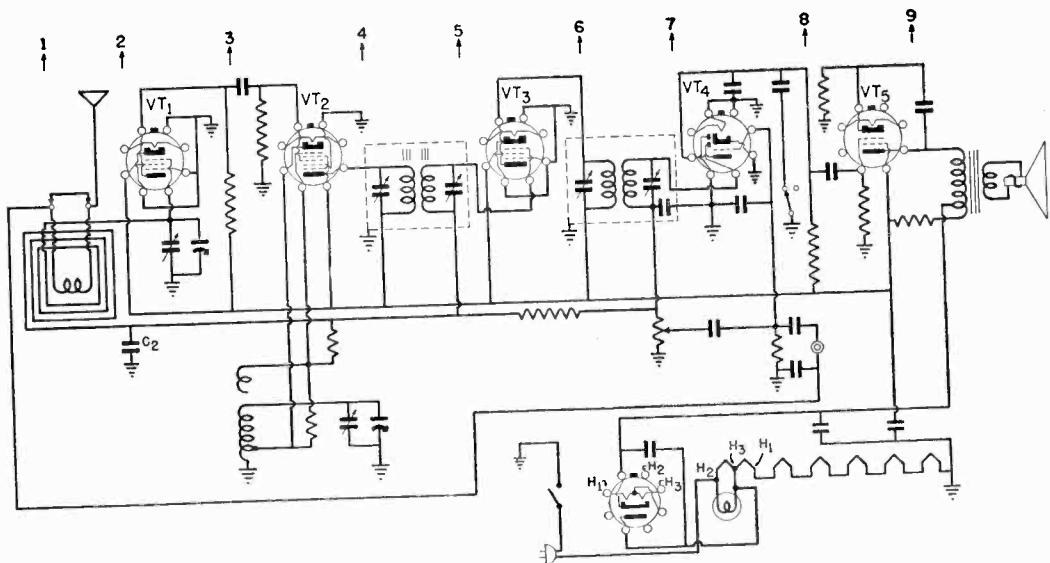

Fig. 5
Table 1 gives the manufacturer's gain figures for the set shown in Fig. 5, and Table 2 lists what are considered to be average gain values. As you can see by comparing the two, some of the values in Table 1 are within the average, but others are somewhat outside. Therefore, you can't rely on average gain values absolutely—you will have to supplement them with what you learn from experience with specific receivers, or with actual information furnished by the manufacturer.
*Examples of Gain Measurements.* Now, let's see how to make gain measurements on the set shown in Fig. 5. To use the Signal Tracer, you must have a signal, either from a local broadcast station or from a signal generator, to feed into the set. The signal generator is preferable, particularly when you expect to make gain measurements in the audio section of the receiver, because there a steady audio signal of unvarying amplitude is necessary. Let's suppose you are going to use a signal generator.
The gain of the r.f. and i.f. stages in modern receivers depends on the a.v.c. voltage. Hence, most manufacturers recommend that the a.v.c. voltage be killed while making gain measurements—in the case of Fig. 5 by shorting a.v.c. filter condenser  $C_2$ . Shorting the a.v.c. in this way permits the set to operate with a maximum and fixed sensitivity. Notice in Table 1 that the r.f. stage gain varies from 1 to 7, depending on whether or not the a.v.c. is working. Let's prepare the set for gain measurements by shorting a.v.c. filter condenser  $C_2$ .
Table 1 shows that the signal strength is increased 2.5 times (the gain is 2.5) between the input and the r.f. amplifier grid of the receiver in Fig. 5. This measurement, as the table also shows, is to be made with a 1000 kc. signal input. Therefore, tune the receiver, the signal generator, and the signal tracer to 1000 kc. Remove the antenna-ground shorting bar and connect the signal generator to the antenna and ground posts of the receiver. Attach the ground lead of the Signal Tracer to the receiver chassis. Set the slide switch to R.F., the BAND SELECTOR switch to B, and touch the R.F. probe to the antenna post. Adjust the two calibrated R.F. ATTENUATORS of the Signal Tracer until the indicator eye just closes. If necessary, increase the output of the Signal Generator. Multiply together the FINE and COARSE R.F. ATTENUATOR settings. The result represents the relative signal strength at this point needed to close the indicator eye.
To check stage gain in the a.f. section of the receiver in Fig. 5, adjust the Signal Tracer to receive audio signals by sliding the RF-AF switch to A.F. The Model 33 "ground" lead is clipped on the receiver's chassis as done previously. Touch the A.F. probe to the grid of the tube  $VT_4$ . Set the A.F. ATTENUATOR control at 1. Adjust the receiver volume control so the indicator eye just closes. Next move the A.F. probe to the plate of  $VT_4$  and re-adjust the A.F. ATTENUATOR for indicator eye closure. This new A.F. ATTENUATOR setting is actually the stage gain. (No division is necessary, since the A.F. ATTENUATOR setting at the grid of  $VT_4$  was 1. Dividing the setting at the plate of  $VT_4$  by 1